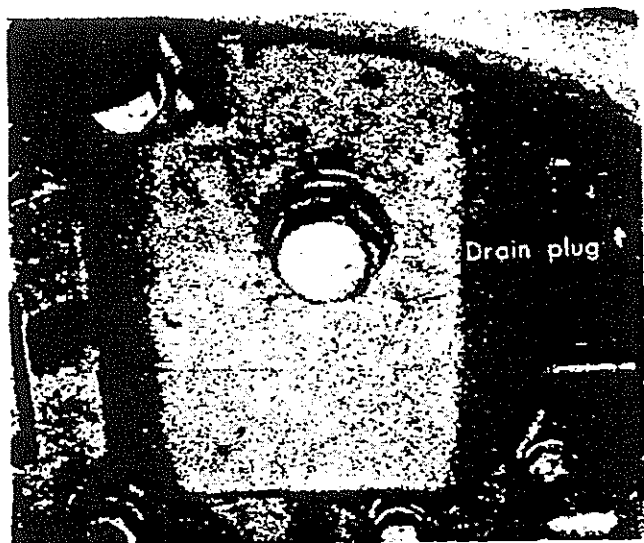

Fig. 30
- a) Drain out dirty oil after running in. (Fig. 30)